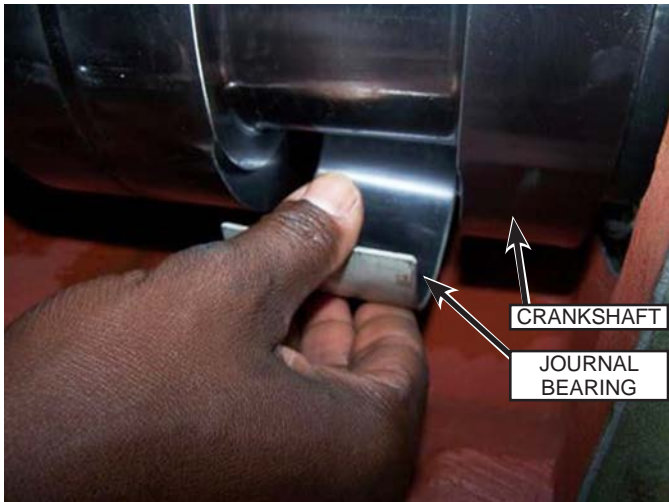

Fig. 140: Rod Bearing Installation
- Slide the bearing (Fig. 140) into the connecting rod from below the crankshaft journal.